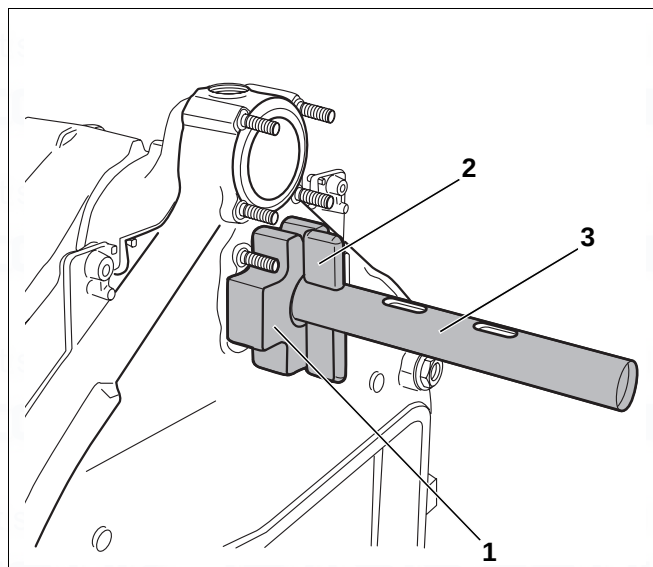

Fig. 15 Boiler compression tool on rear section
- ▶ Push additional flange (Fig. 15, [1]) onto both pull rods (Fig. 15, [3]) and secure in each case with wedge (Fig. 15, [2]) or cylinder pin (with compression tool 2.2).